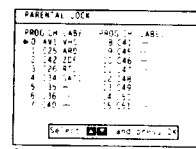

Fig. 26.
- 3 Select Parental Lock with + or - and press OK. The PARENTAL LOCK menu appears. (See Fig. 26.)